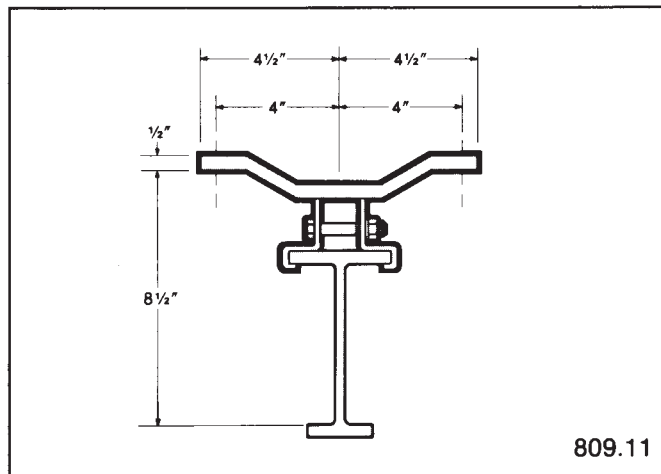

FIGURE 32
- 809.11 (Refer to Figure 32): For 4-wire (2-run) dual conductor bottom-entry electrification at 8½" above operating flange surface of 602.6 *SuperTrack™*.